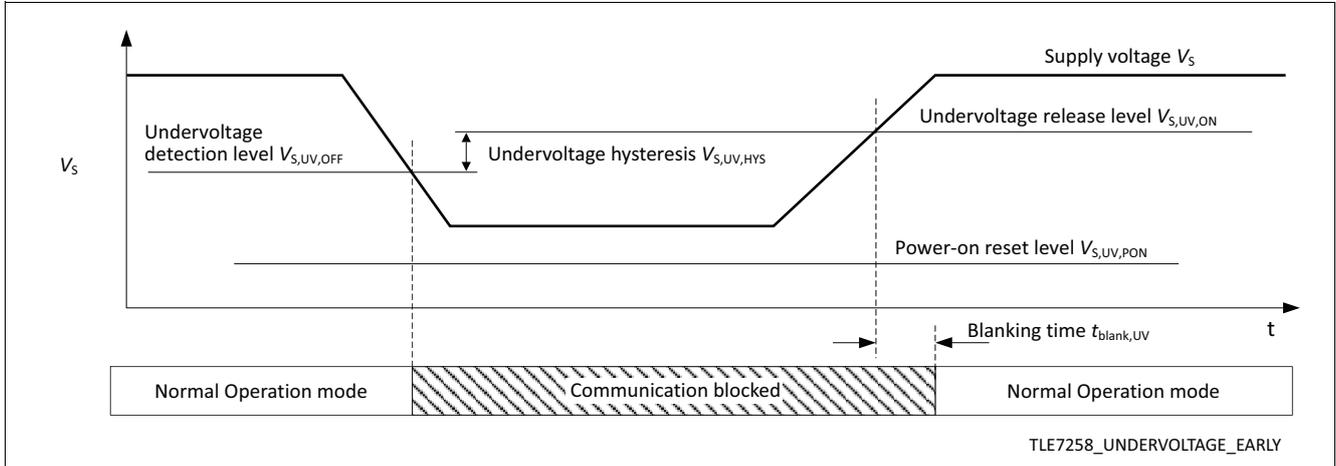

Figure 11 Early undervoltage detection
- In Normal Operation mode the TLE7258D blocks the communication between the LIN bus and the microcontroller when detecting undervoltage events. However, no mode change will occur. After V_S rises above the undervoltage release level $V_{S,UV,REL}$, the bus communication interface will be released when the signal on the TxD input goes “high”. See Figure 11.